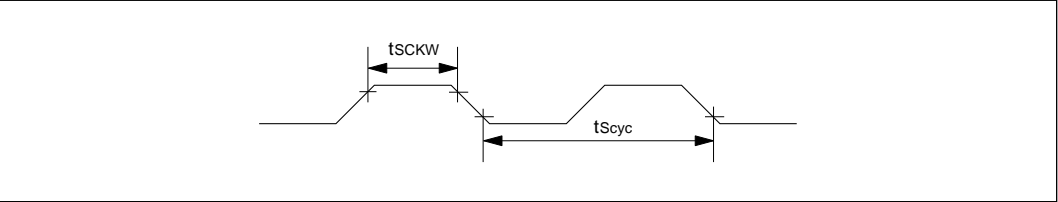

Figure 20-20 SCI Input Clock Timing
20.3.8 Serial Communication Interface Timing	Figure 20-20 and 20-21